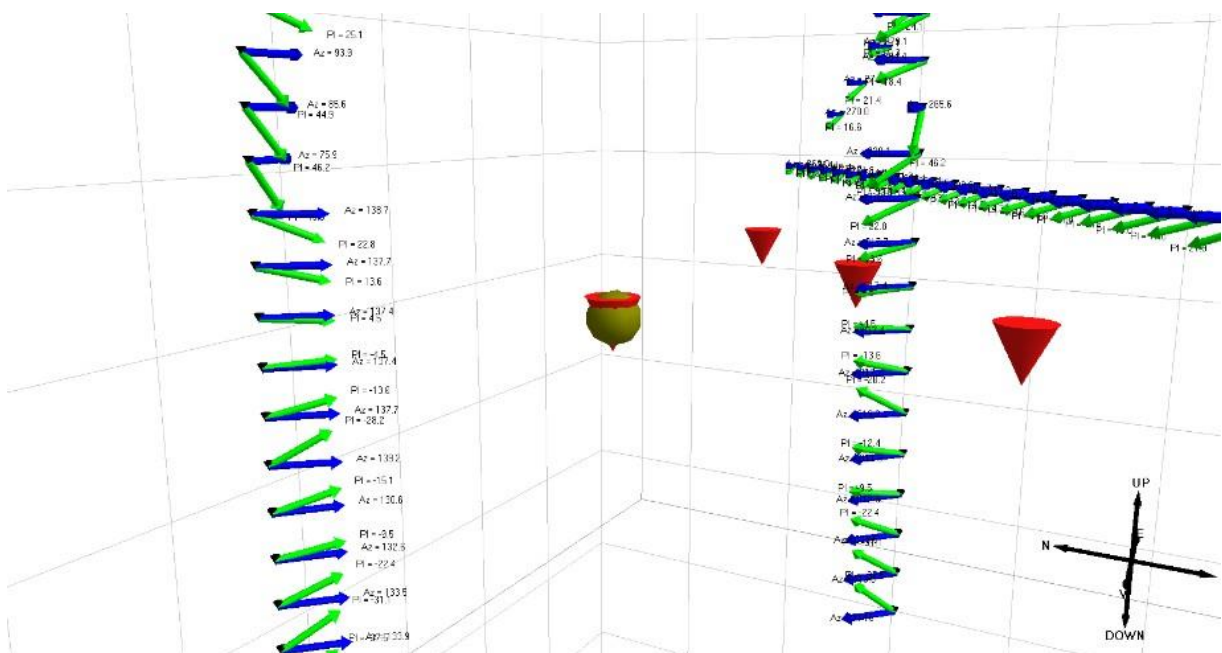

Figure 9-59: Event azimuth and plunge source vector visualisation
3. **Azimuth and Plunge** - show two source vectors for each instrument, one for azimuth and one for plunge (Figure 9-59).